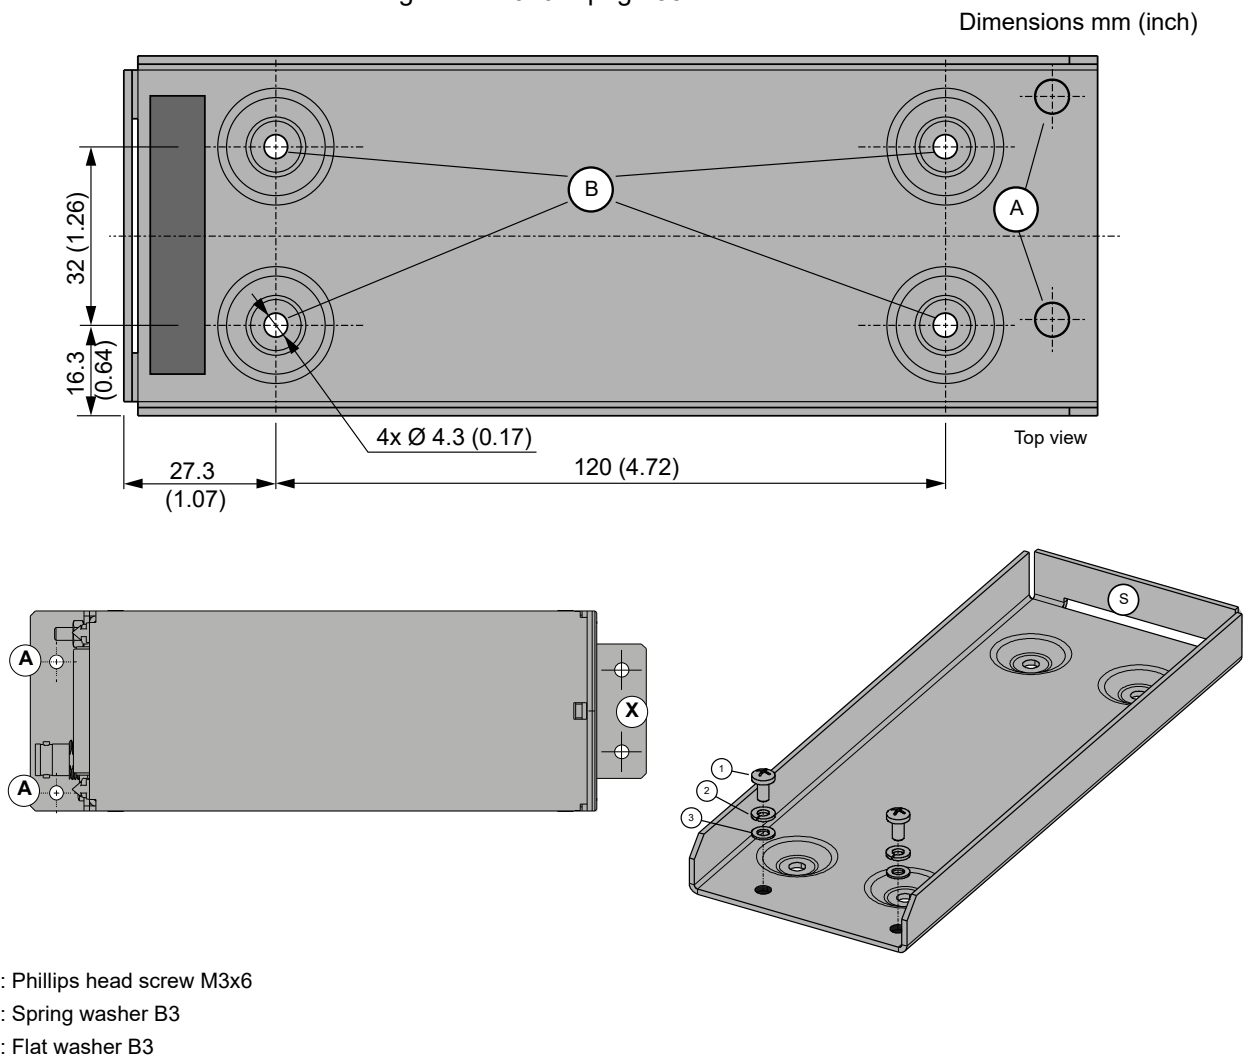

Figure 7: RT62X1, MK6201-(10) Installation
- Use the mounting kit MK6201-(010) for installation to obey the conditions for certification.
- (see "Dimensions see "Figure 7: RT62X1, MK6201-(10) Installation page 48).
- (see "Figure 7: RT62X1, MK6201-(10) Installation page 48).
- Use the screws (A) to tighten the device to the mounting slot
- (see "Figure 7: RT62X1, MK6201-(10) Installation page 48)